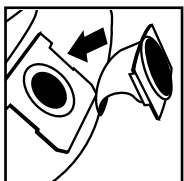

FIGURE 30
42. Make sure curve of the deflector is in a downward position, slide collector bag collar over deflector matching notches of collar to tabs on deflector. **FIGURE 30.**